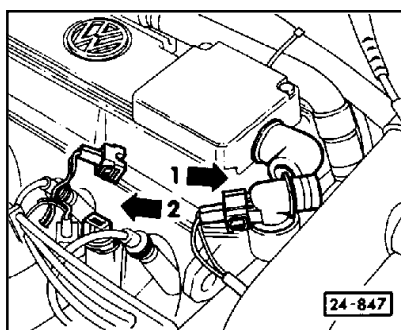

fig. 1
1. Remove the upper drive belt cover by pulling back the clips at the top of the cover and lifting the cover up and out. Remove the idle stabilizer valve and hose to facilitate valve cover/camshaft removal and installation. Remove the two braces running from the valve cover to the intake manifold. Disconnect the crankcase ventilation hose from the emission control valve (fig 1, disregard arrows.) Disconnect the electrical connector at the fuel after-run control valve. Remove the eight nuts holding the valve cover down. Lift off valve cover while taking care not to damage the rubber valve cover gasket.
7. Check to see if the dot on the inside of the cam sprocket lines up with the upper edge of the camshaft drive belt inner cover (fig. 1). If not, rotate cam slightly until it does.
- 4.** Your crankshaft vs. intermediate shaft timing should already be close if you put the motor at TDC before beginning your cam install. Rotate crankshaft (by hand using a wrench or socket on the end of the crank) and intermediate shaft until the dot from the intermediate shaft is visible through the "V" in the crankshaft pulley (fig.1). **Caution:** *Rotate the crankshaft the least amount necessary align the marks. Since the drive belt is not installed, there may be piston to valve interference if you try to rotate the crankshaft too much.*
- 5.** Check camshaft timing mark, make sure that the dot on the inside of the cam sprocket is lined up with the camshaft drive belt inner cover (fig 1).